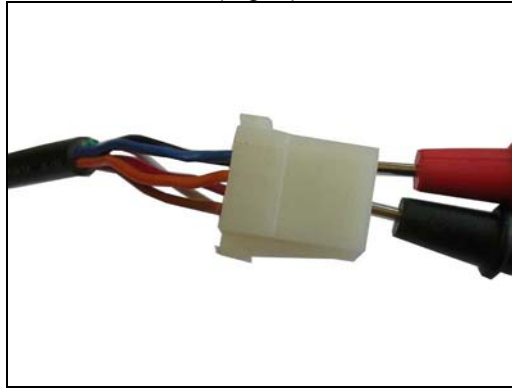

Fig. 4
3. Unplug the elevation motor from the Motor Control Board (MCB). Set the multi-meter to measure ohms. Insert the multi-meter leads: one in the orange wire, one in the blue wire (Fig. 4).